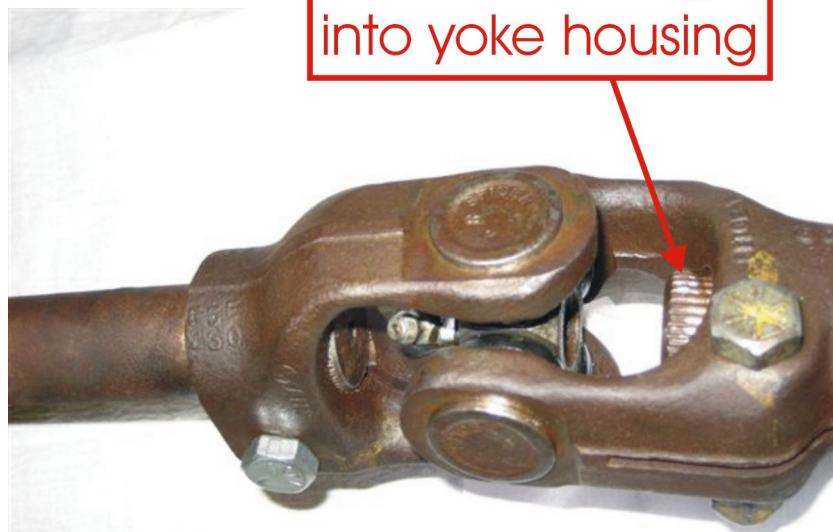

Figure 3:
- b. One splined shaft protruding $\frac{1}{4}$ ” or more beyond yoke housing at end where offset bolt is located. See Figure 3.